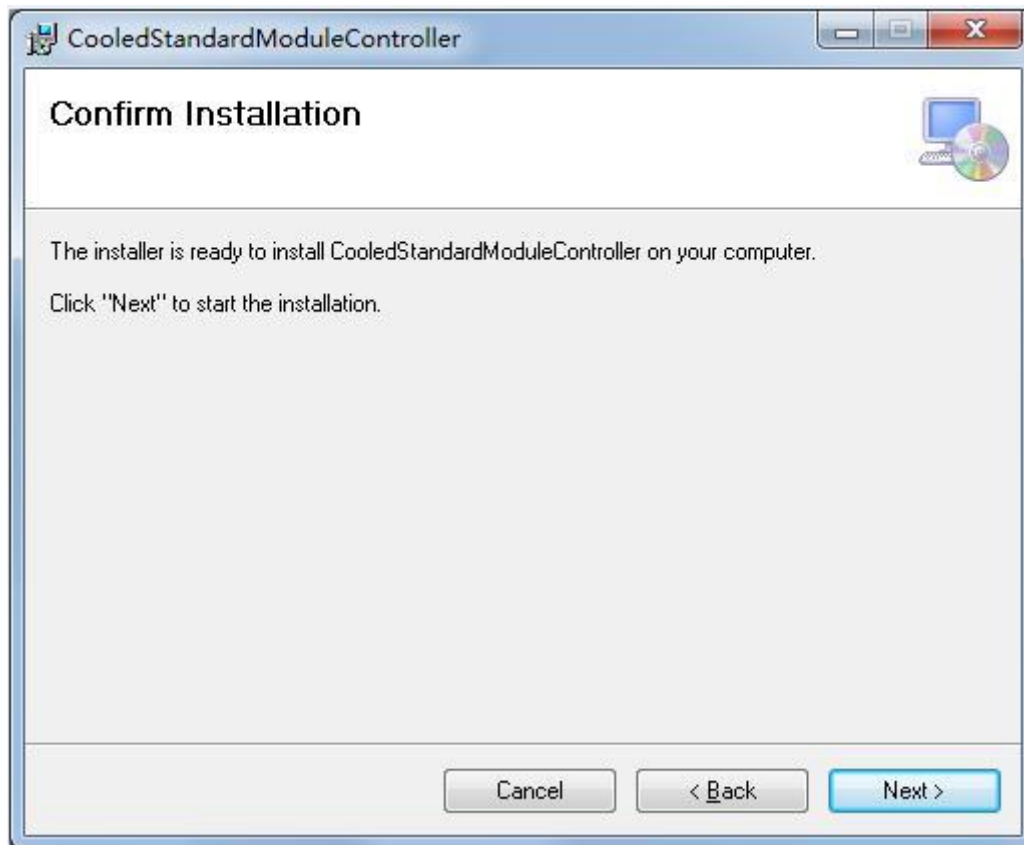

Figure 3-3 Software installation screen 3
- 3) In the new pop-up window, click the button "Next" to proceed to the next step, as shown in Figure 3-3.